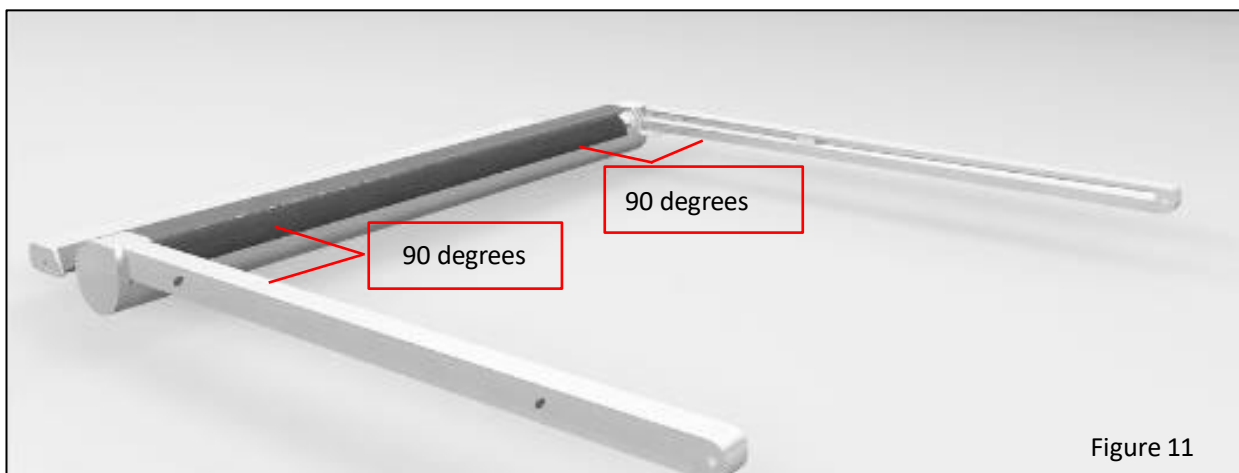
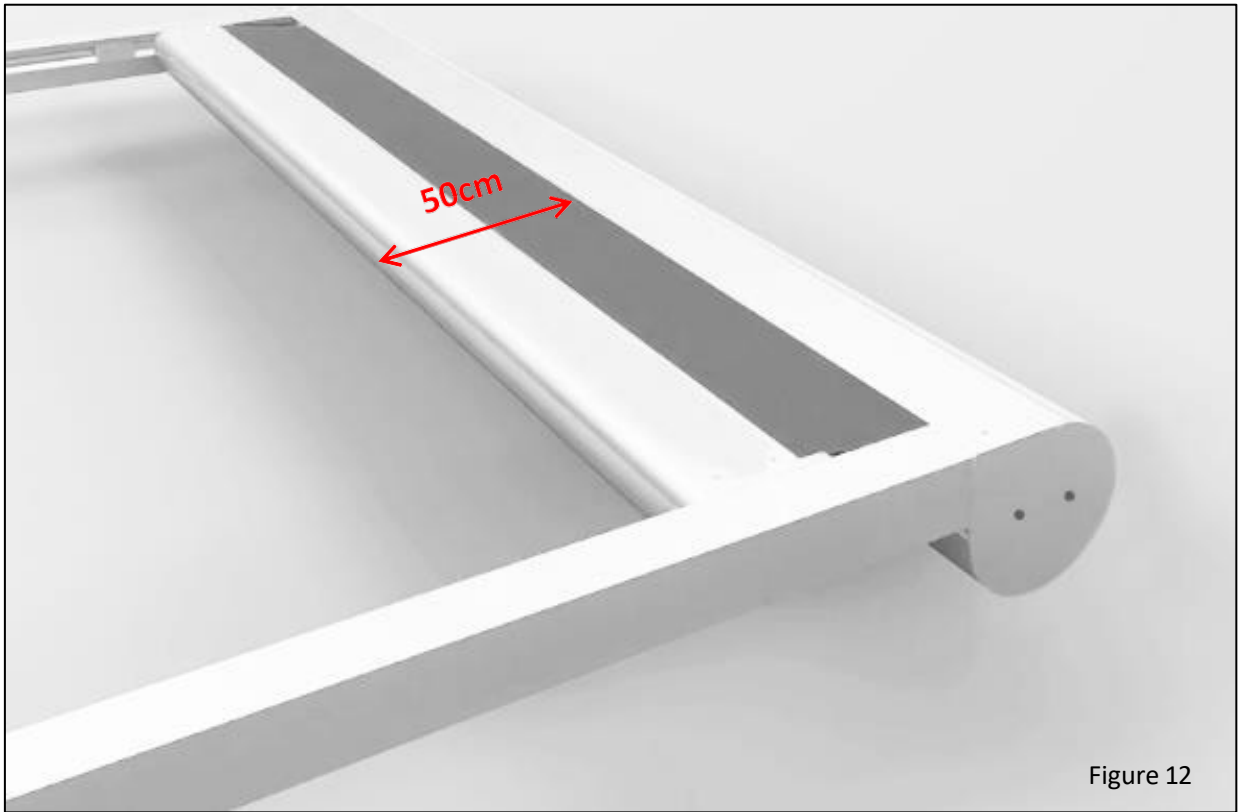
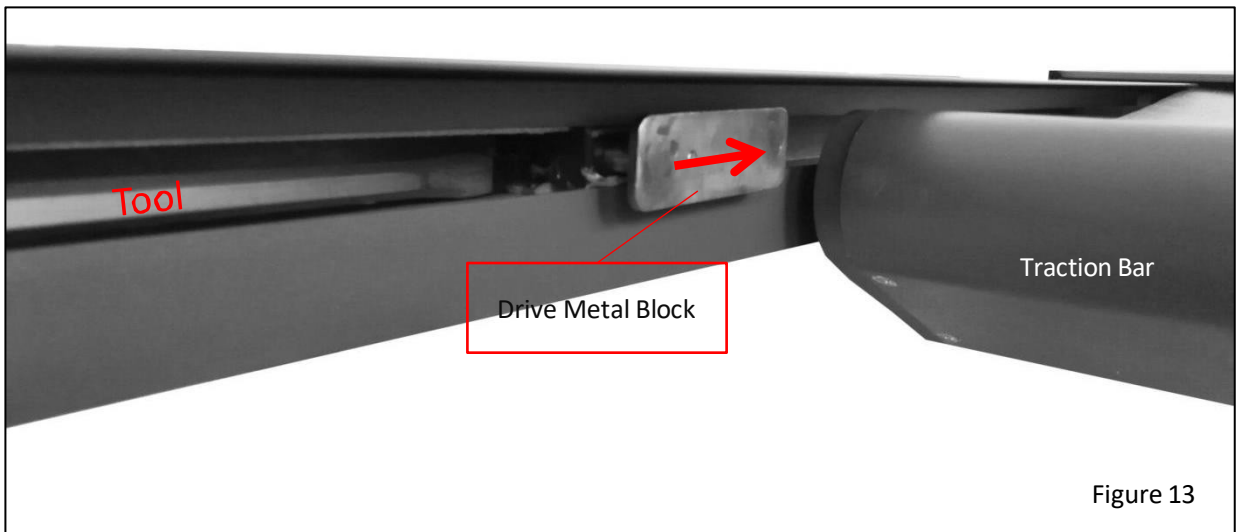

Figure 11
Figure 12
Figure 13
3.2.1 Adjust the angle of the Guide Rails and Awning Main Body to 90 degrees completely (see Figure 11). After turning on the Power Supply and extending the awning 50cm around (see Figure 12), use a tool to push the Drive Metal Block firmly toward the Awning Main Body (see Figure 13, Figure 14), after over the Towbar (see Figure 15), let it slowly retract and snap into the groove at the end of the Towbar (see Figure 16).